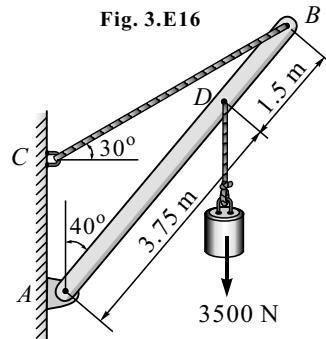

Fig. 3.E17
18. Determine the force P applied at 45° to the horizontal just necessary to start a roller 100 cm diameter over an obstruction 25 cm high, if the roller weighs 1000 N, as shown in Fig. 3.E18. Also find the magnitude and direction of P when it is minimum.